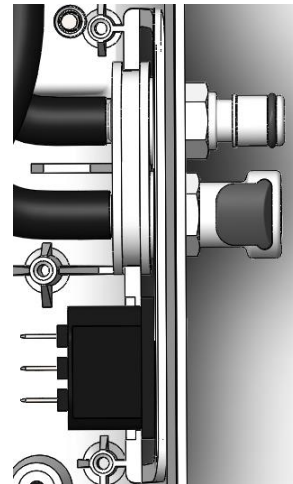

Fig: 17
3. Lift the side panel out to give access to the IEC socket and CPC assembly. (Fig: 17)